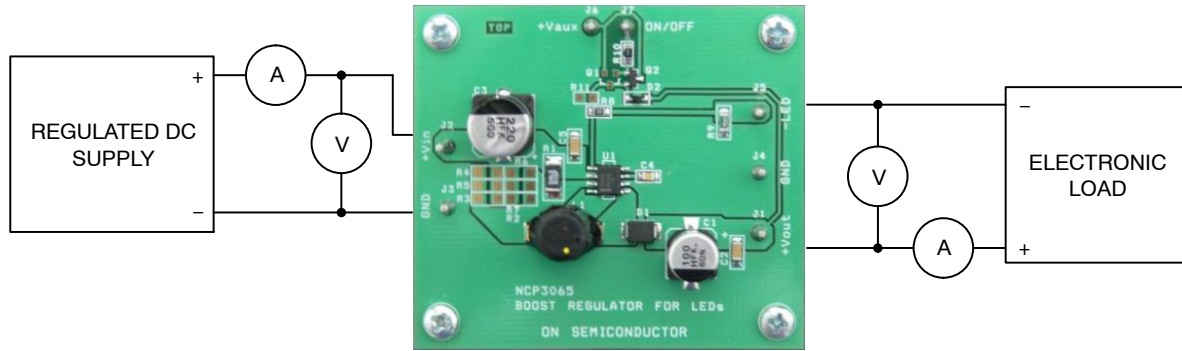

Figure 29. Test Setup for the NCP3065 Boost Evaluation Board
1. Connect the test setup as shown in Figure 29.